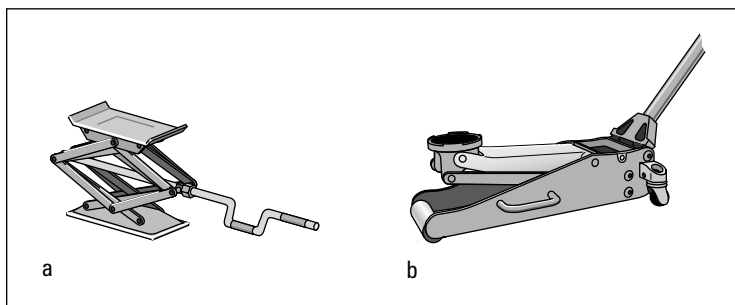

Figure 1-1: A scissor jack (a) and a hydraulic jack (b).
3. Lift the vehicle by using the jack. How you accomplish this depends on the type of jack you're using (see Figure 1-1):